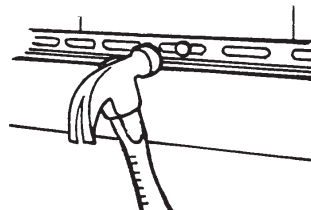

Figure 73.
- Lock on the new panel and nail it up (Fig. 73).